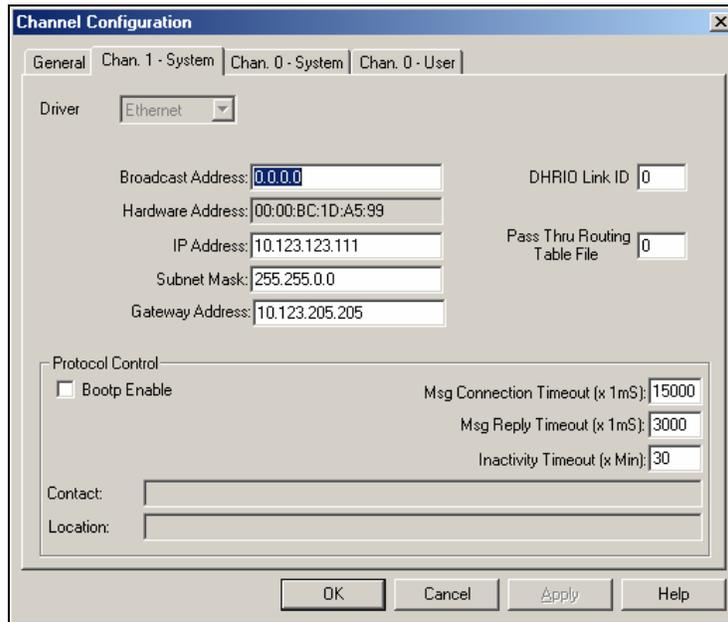

Figure 4-2: Channel Configuration Dialog (Channel 1 – System Tab)
3. Refer to Figure 4-2. Configure Channel 1 (Ethernet) as necessary. Consult with a network administrator for proper settings.